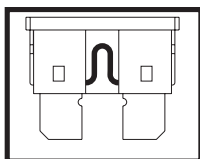

Figure 22. Working Fuse
2. Examine the fuse to be sure it is blown. See figures 22 and 22A.